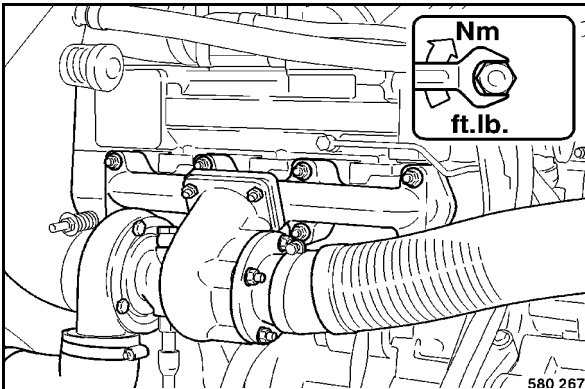

Fig. 161
- Tighten fastenings of intake and exhaust manifolds (Fig. 161) on the cylinder heads.